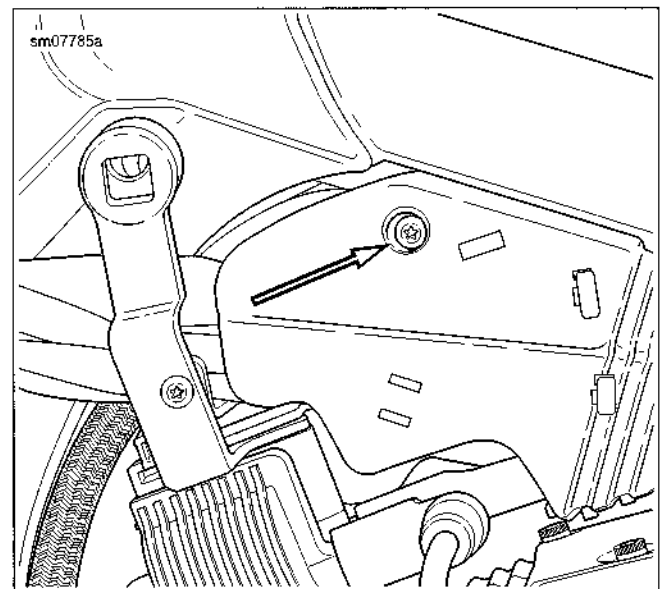

Figure 2-113. Caddy Fastener
6. See Figure 2-113. Remove LH wire harness caddy fastener.